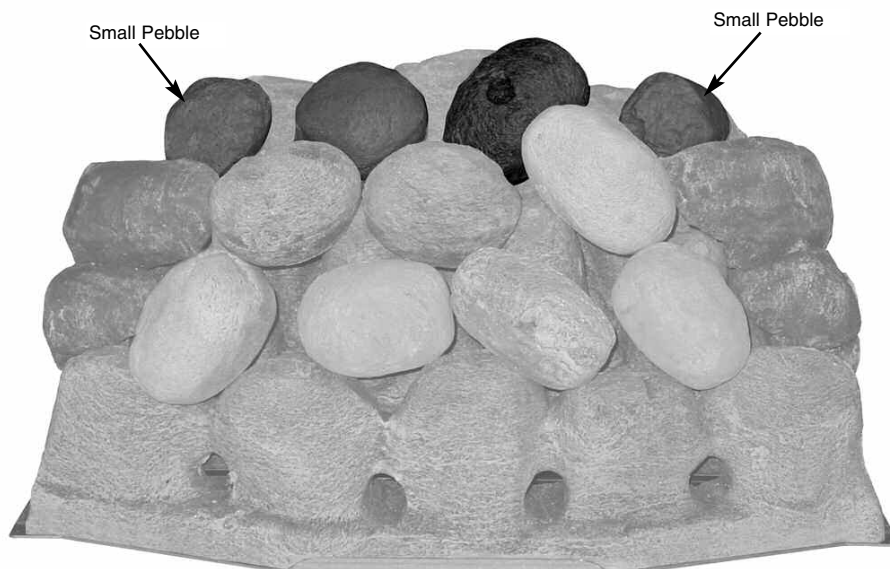

Fig. 25
6. Place the next two pebbles in the middle, on the back edge of the pebbles previously laid ensuring even gaps all round. Finally place the two small pebbles, one in each top corner. Make any adjustments necessary to achieve even gaps as this will help in giving a well balanced flame picture and an even glow (Fig. 25).